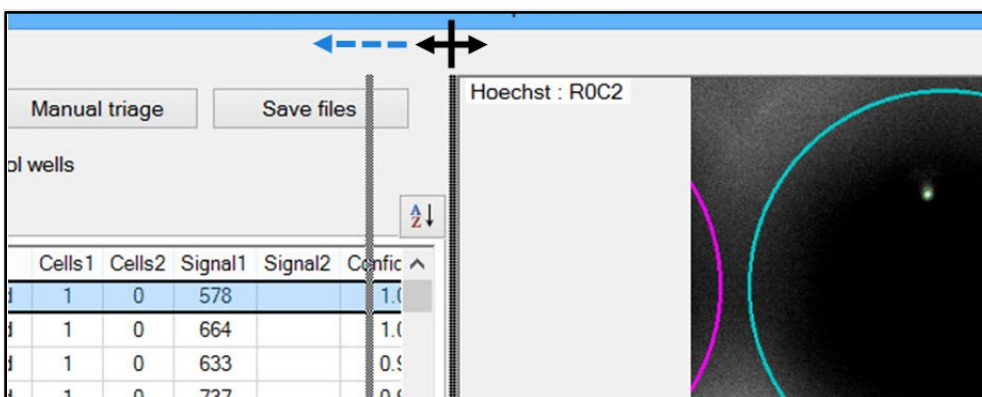

Figure 41. Adjusting the width of the *Image Viewer* window.
**Column/window width:** Column widths can be adjusted by clicking the line between column headings and dragging left or right. In these instances, the appearance of the cursor changes to the  $\leftarrow| \rightarrow$  symbol. Various window/section widths can be adjusted as well. Click the left border of the *Image Viewer* window until the mouse pointer changes to the  $\leftarrow| \rightarrow$  symbol, then drag the border left or right (see Figure 41, below).